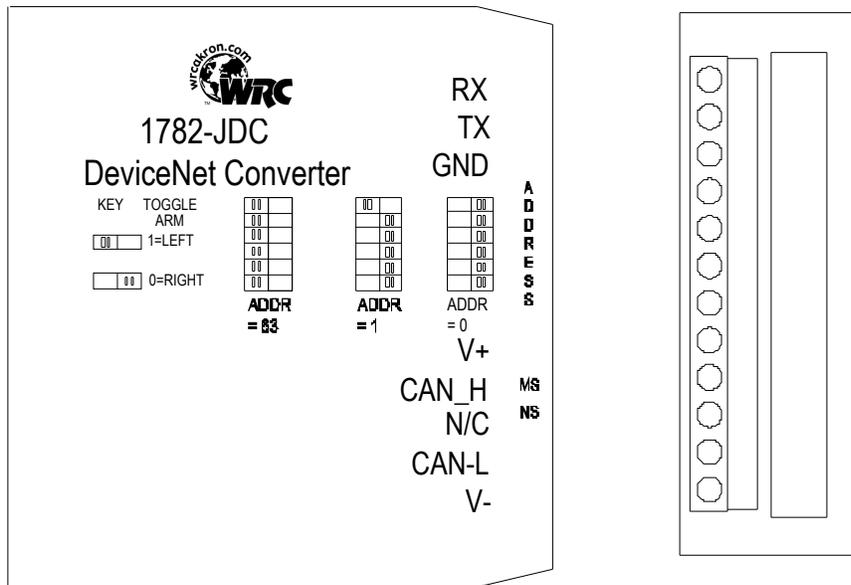

Figure 4-1 1782-JDC Outline Drawing
2. Connect the other end of the cable to the JDC using the 3-point or 5-point terminal plug provided. Note the terminal markings on the JDC case. See Figure 4-1.